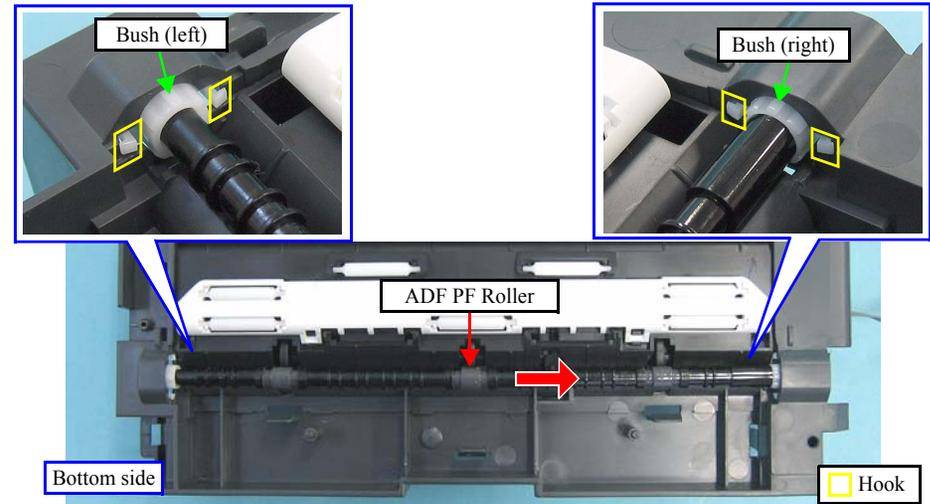

Figure 4-126. Removing the ADF PF Roller (2)
1. Attach the bush (left) to the ADF Base, and secure it with the hooks. (See Figure 4-126.)
2. Insert the ADF PF Roller into the ADF Base, and secure it to the bush (left). (See Figure 4-126.)
3. Attach the bush (right) over the ADF PF Roller, and secure the bush to the ADF Base with the hooks. (See Figure 4-126.)